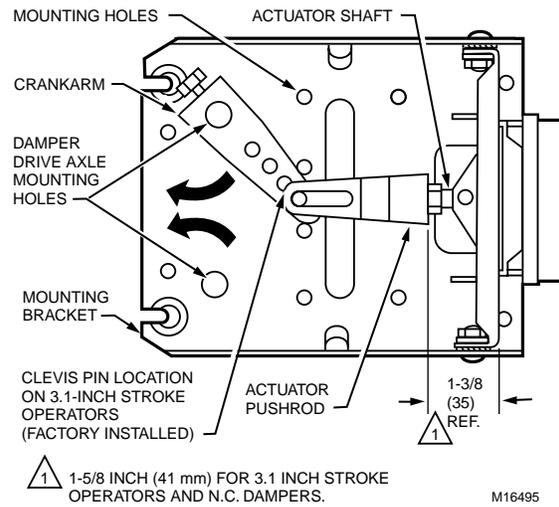

Fig. 9. External Mounting with Trunnion Bracket.
5. Install actuator with appropriate shaft hole (Fig. 9) on mounting bracket over damper axle. Arrow on bracket surrounding hole should match rotation determined in Step 3.
2. Remove clevis pin, washer, and clip (Fig. 9).